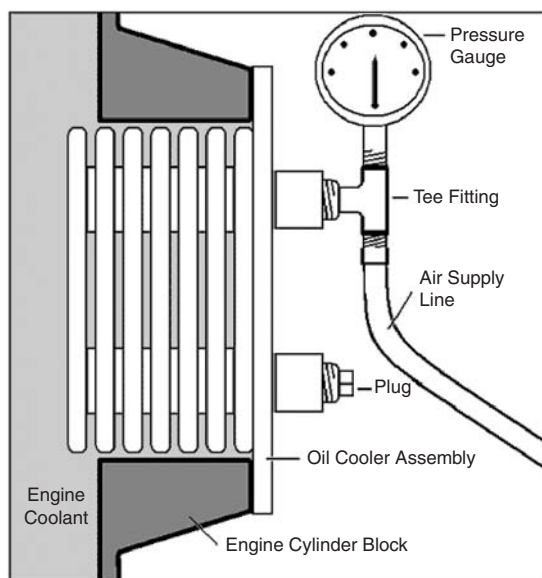

Fig. 11-15. Testing an engine or transmission oil cooler.
2. Pressure-test and replace the oil cooler as needed (Fig. 11-15).